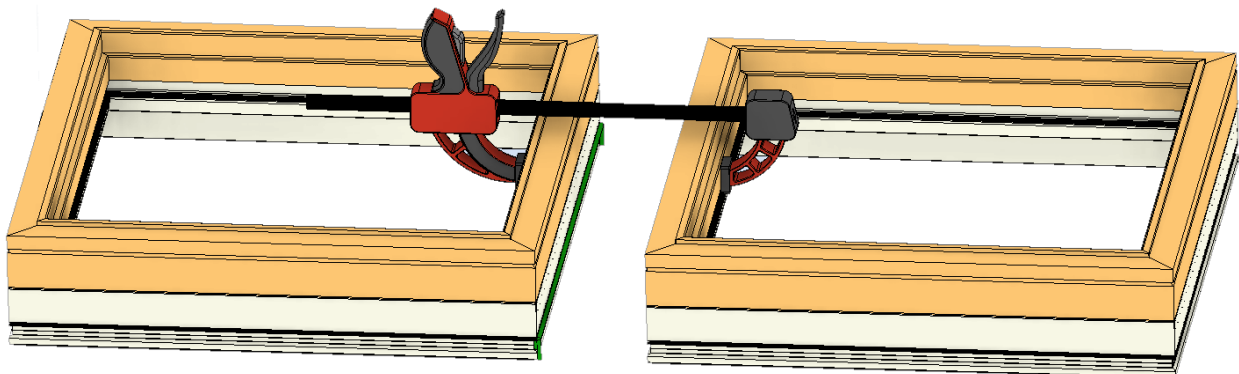

Figure 2
- B. Push the units together squeezing out silicone on the edge of the frame and clamp the units together (figure 2).